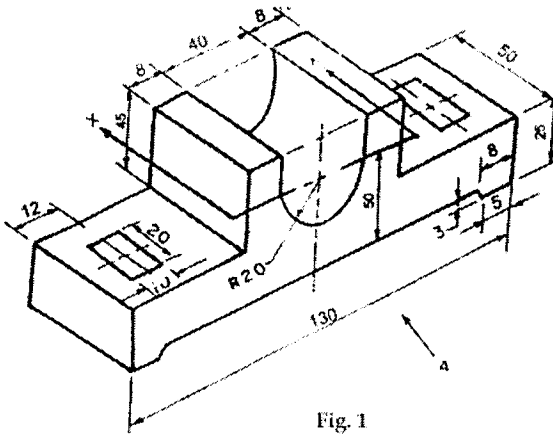

Fig. 1
6. Draw front view, side view and top view of the object shown in Fig. 1. 14